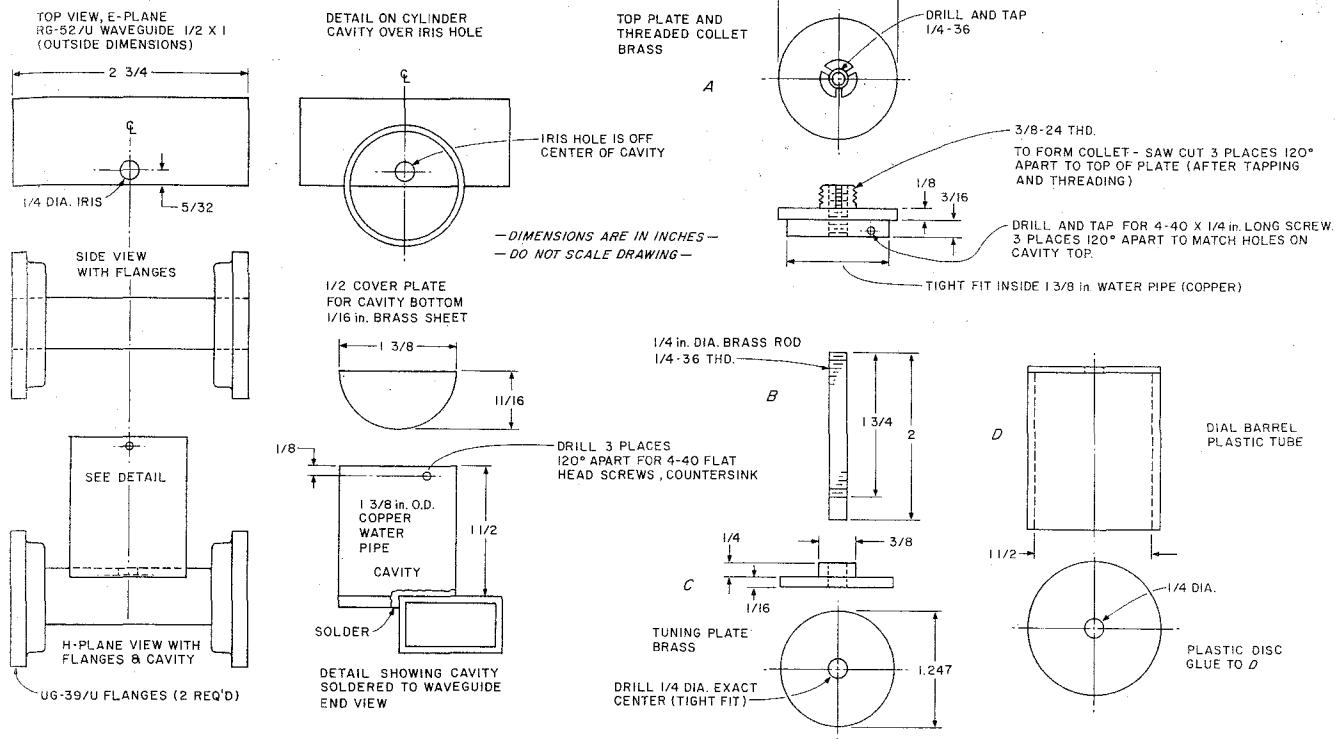

Fig. 3. Construction details for cavity wavemeter.
Now, let us examine the construction of a cavity wavemeter for X-band. (See Fig. 3.) The cavity we will construct is, in microwave parlance, a right circular cylinder cavity operating in the TE_{011} mode. It is mounted on the E-plane of an X-band waveguide, off center so that the center of the cavity will sit directly centered over a hole in the waveguide. This hole is called an iris hole. The remainder of the cavity bottom, which hangs over the waveguide, is covered with a brass half-circle soldered in place. This is shown in
On one side of the guide lying on this line, place a centerpunch mark at the distance from the outside wall shown in the mechanical assembly drawing, Fig. 3. Now drill the hole also described in this detail. Deburr this hole inside and out of the guide so that it is smooth. This is the iris
When the soldering is completed, the waveguide section should have the cavity mounted off-center on the guide with the iris hole off-center with the diameter of the cavity (see Fig. 3 details). The cavity should be in line with the scribe marks previously described as the alignment lines. If this is not the case, but the alignment marks are only a very few thousands of an inch off, do not rework to improve the alignment; this small deviation will not degrade the operation of the wavemeter too badly. Inspect the inside of the cavity where it mates with the waveguide and be sure that solder has completed the "run" around the entire cavity surface that is in contact with the waveguide.
Now the tuning disk and lead screw can be assembled into the bearing and collet assembly. To do this, place a lock nut of the compression type (as found on most screwdriver-adjust locking pots) on the collet—see A in Fig. 3. The locking nut is a device which has inside tapered threads, 3/8-24, and is about 1/4-inch thick. It will compress the collet against the lead screw threads causing it to move tightly in the collet bearing. Put the nut on so that it is loose.
Now, from the opposite side of the bearing plate (A), insert the threaded end of the brass 1/4-inch rod and screw it up through the collet until about an inch of it is exposed. This item is labeled B in Fig. 3. Now install piece C, the tuning disk, on the end of the brass-threaded rod. Gently heat this piece and solder it to the threaded rod, taking care not to get solder in the fine threads. When the piece is cooled, wash off all solder paste. Now, on the back of the tuning plate, add the powdered iron as described earlier.